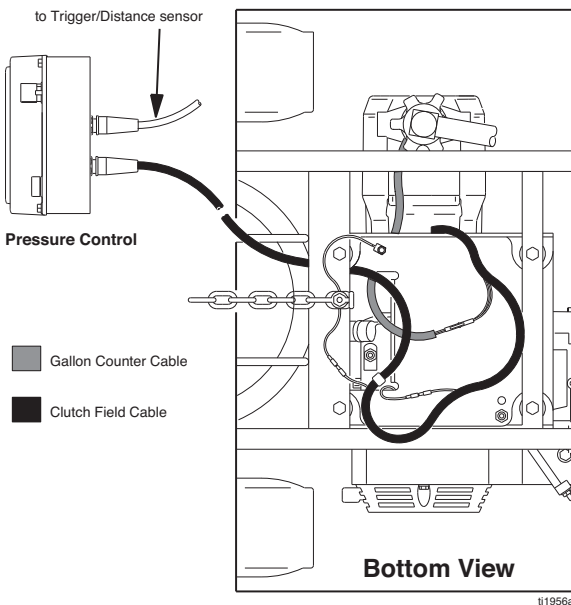

FIG. 4
2. Fig. 4. Disconnect all necessary wiring.
3. Fig. 4. Connect all necessary wiring.